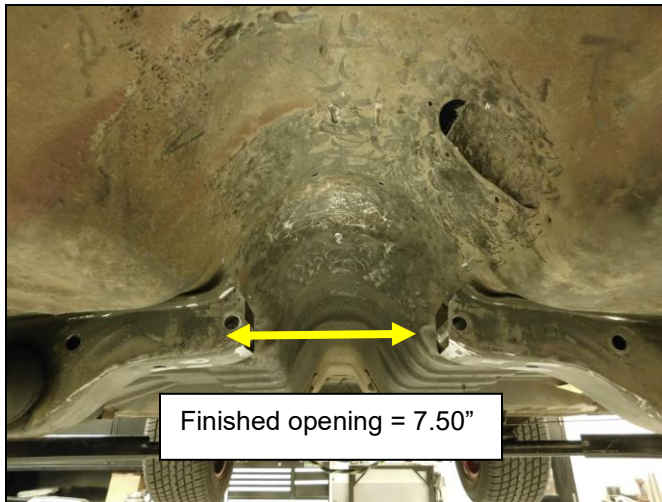

Figure 3
3. Cut along the vertical reference line using a right angle grinder and cutoff wheel. Take your time and make a clean vertical cut making sure to stay on the inside of the vertical reference line. Resist the need to take more material than necessary, more material will be removed with the grinder and flap wheel after the initial center section of the upper transmission tunnel is removed (**Figure 3**).